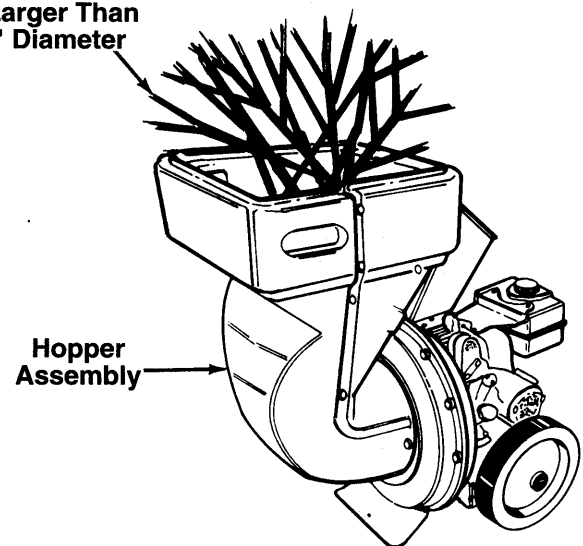

FIGURE 7.
1. Leaves and small branches up to 1/2" diameter can be fed into the hopper assembly. See figure 7. If it becomes necessary to push material into the shredder, use a small diameter stick—NOT YOUR HANDS. The stick cannot exceed 1/2" in diameter so it will be ground up if it gets into the impeller assembly.